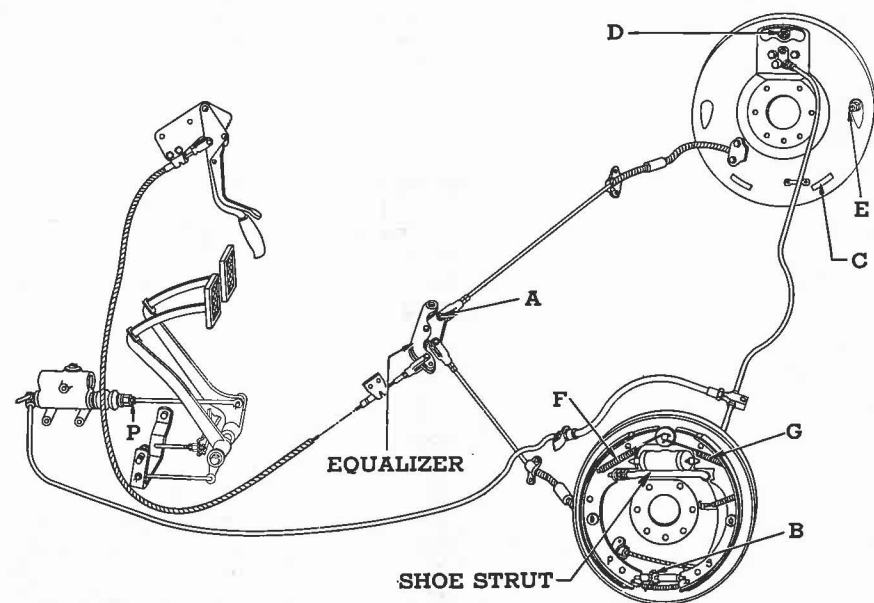

Fig. 27—Chassis Brake Diagram. Clearance Adjuster is Shown at "B", which is Accessible Through "C." Anchor Pin is Shown at "D" and Eccentric at "E"
1. Jack up all 4 corners of car and remove wheels. Place hand brake lever in fully released position. If doubtful regarding full release of hand brake, remove either one of the hand brake cable clevis pins "A," Fig. 27. Remove adjusting hole covers "C" from backing plates and covers from drum ports.
brake, remove either one of the clevis pins "A," Fig. 27. Remove adjusting hole covers "C" from each backing plate and also from the drum port at each wheel.
a. Insert a .010 inch feeler blade between lining and drum at lower end of secondary shoe (rear shoe) and turn eccentric "E," Fig. 27, towards front of car until feeler is just firmly gripped. Tighten lock nut on eccentric.
The master cylinder primary cup must clear the small by-pass port when the piston is in released position. If cup does not clear the by-pass port, the compensating action of the master cylinder will be destroyed and the brakes will drag after several applications. To prevent this trouble the brake pedal push rod should be adjusted to provide  $\frac{1}{4}$ " free initial travel of the pedal. Adjustment is by means of the push-rod adjusting nut "P" shown in Fig. 27.